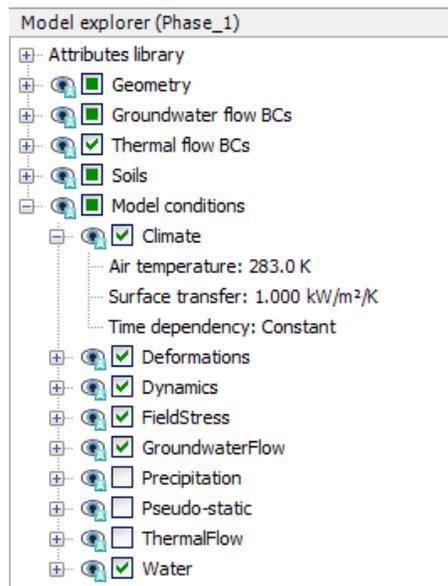

Figure 234: Model conditions for Phase_1
11. Set the **Air temperature** to 283 K and the **Surface transfer** to 1 kW/m²/K as shown in Figure 234 (on page 265).